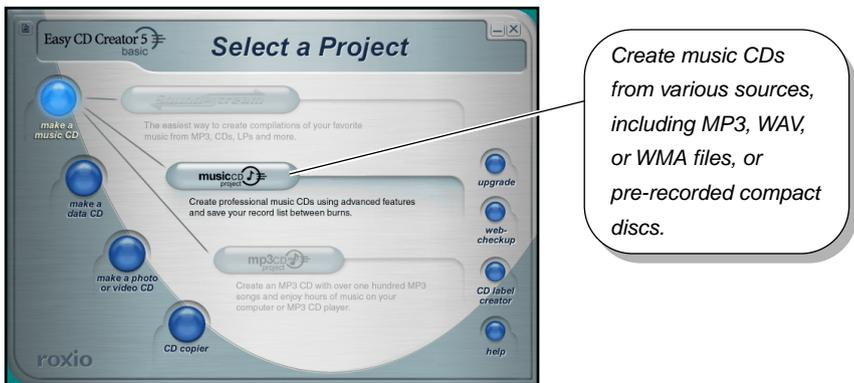

Figure 48. Select a Project Panel: Make Music CD
When you roll over the make a music CD button on the Select a Project panel, the system highlights the button and displays the musicCD button (Figure 48). This button enables you to create music CDs, and save your record list between burns.
1. **Roll over the make a music CD button on the main Select a Project panel (Figure 48 on page 41).**
The system displays the musicCD project button (Figure 48 on page 41).